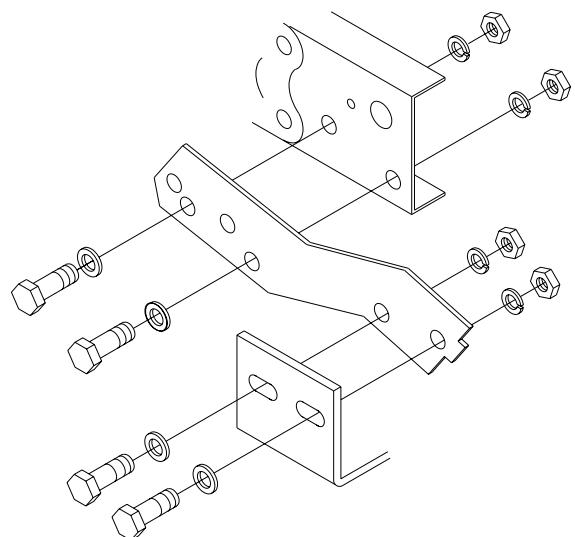

FIGURE 2B
STEP 2: Using 1/2 inch hardware, install bumper onto mounting brackets with brackets inside of bumper hitch. See figure 2B. DO NOT TIGHTEN.